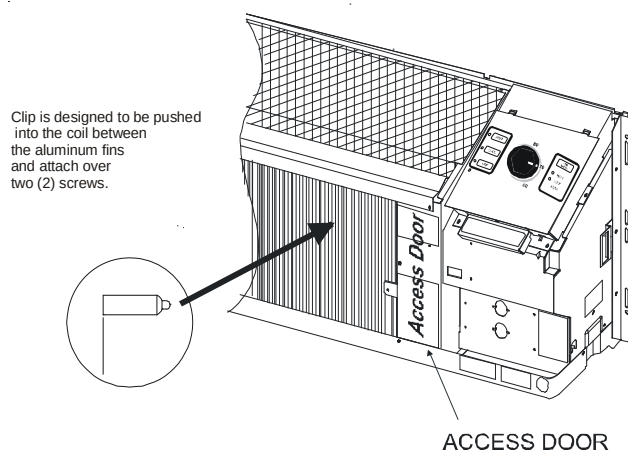
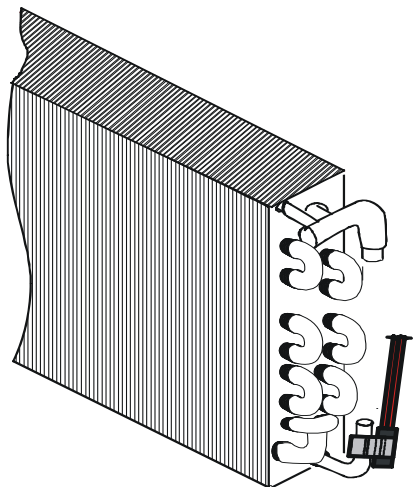

Figure 6
Figure 7
(black) terminals. If the existing Indoor Coil Thermistor was soldered to the previous board, install the new black thermistor per Figure 6 and connect as above.
- C. If the existing **Indoor Coil Thermistor** (with the **RED** wires) was connected to the board by a plug-on connector, reconnect it to the new board on the **ICT** (red) terminals. If the previous board used indoor coil bi-metals, remove and discard the bi-metal devices. The access door will need to be removed on the indoor coil to gain access to the bi-metal. See Figure 6. The Indoor Coil Thermistor will need to clip on the vertical section of the 90-degree bend of the inlet line to the indoor coil. See Figure 7. Connect the Indoor Coil Thermistor to the board as noted above.